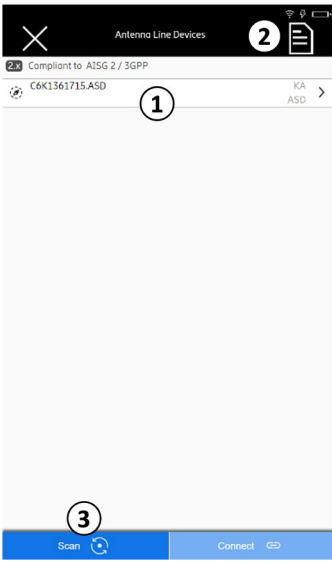

Fig. 86: Devices: ASD connected
- Tap ① in Fig. 86 to open the list with the subunits.